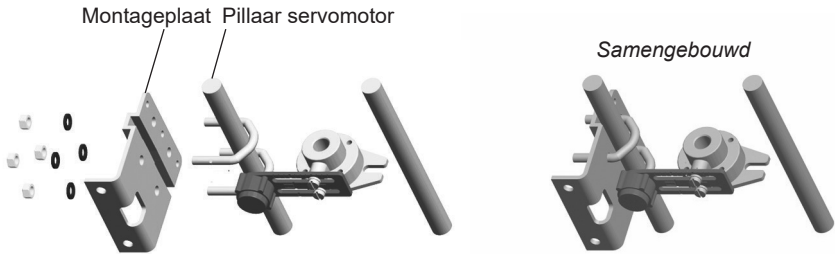
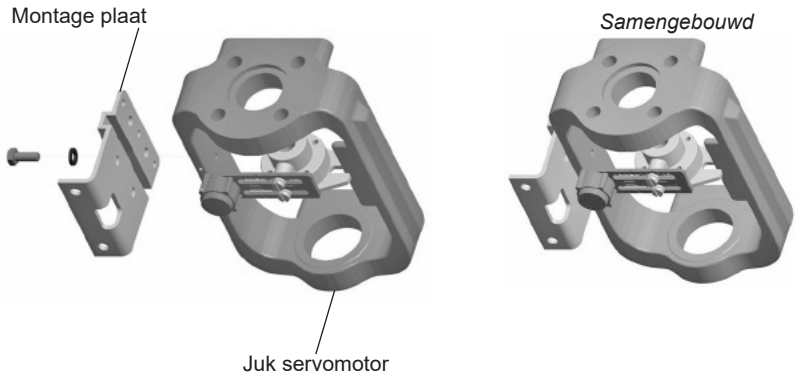

Fig. 9 Pilaar servomotor
Fig.10 Juk servomotor
5.2.4 Loosely attach the positioner mounting plate to the actuator as shown in the following pictures: for the pillar actuator (Figure 9), and for the yoke actuator (Figure 10).